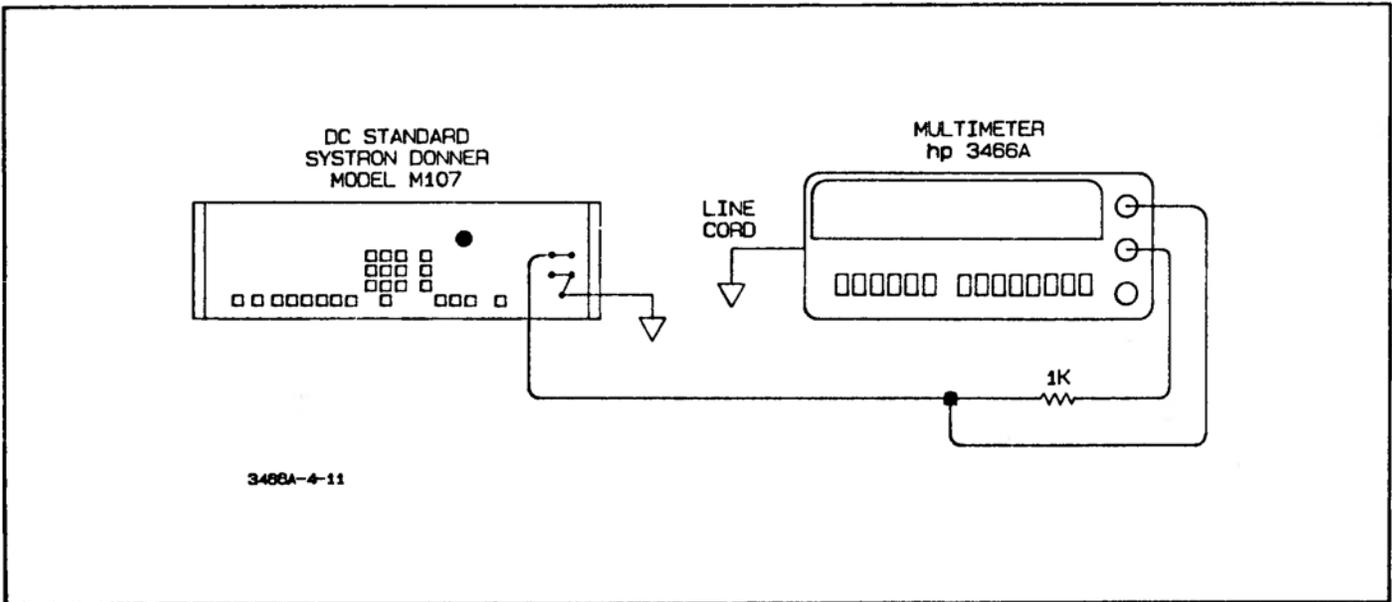

Figure 4-11. DC Common Mode Rejection Test
b. Connect a 1k ohm resistor between the 3466A's V and COM input terminals (see Figure 4-11). Note the reading on the display.
c. Turn the DC Standard's output off. Then connect the DC Standard to the 3466A V input terminal as shown in Figure 4-11.